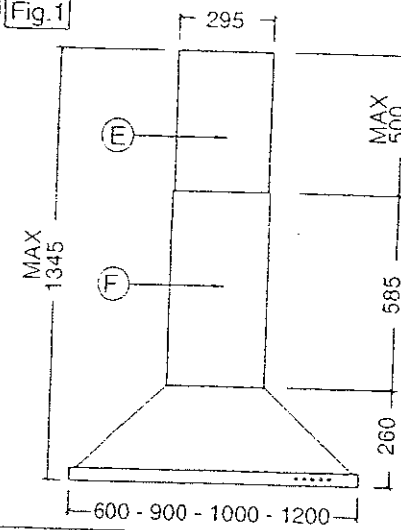

Fig.2
Drill 8 holes (A-B-C-D) according to the measures shown fig. 2.
Hang up the 2 connections (E-F) fitting vertically them in the hood and blocking them using the two holes (B) fig. 2.
Hang up the 2 connections (E-F) by fitting vertically them in the hood and blocking them using the two holes (B) fig. 2.
Remove the connection (E) from the connection (F) and block it laterally to the clamp (Z) fig. 2 with appropriate screws.